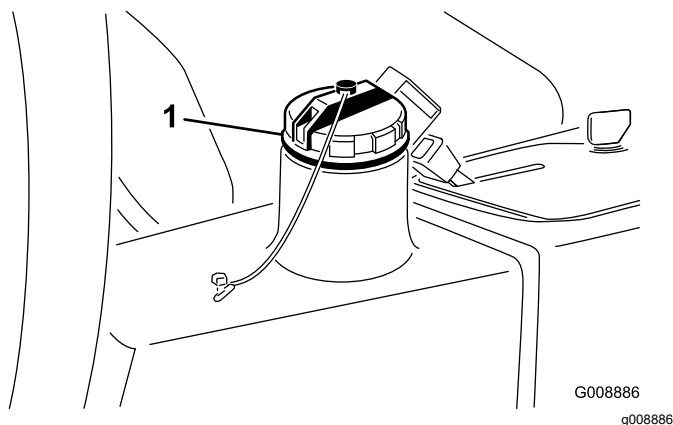

Figure 80
2. Clean the area around the filler neck and cap of the hydraulic tank (Figure 80).